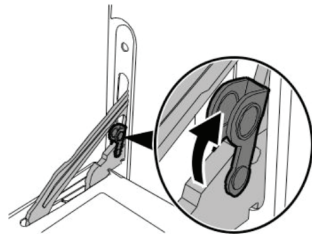

Fig. 2
1. Open the door completely and lift levers near the two hinges (Fig. 2)